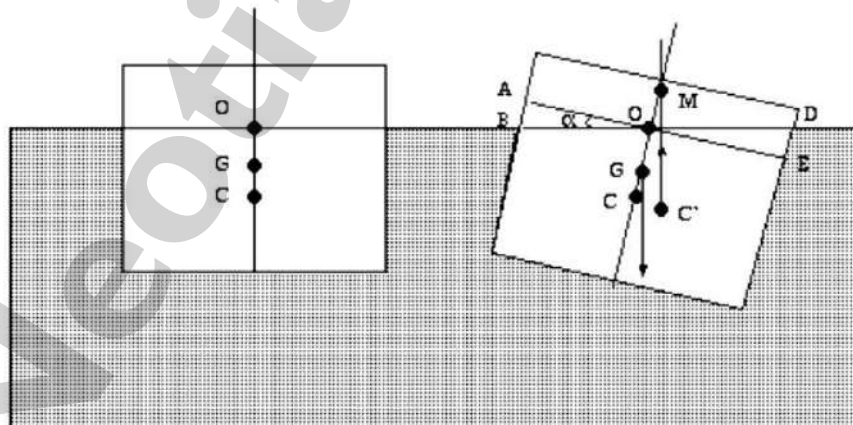

Fig. 1. Metacentric height of a floating body
The *center of the buoyancy* (C , the centroid of the displaced volume of fluid) of a floating body depends on the shape of the body and on the position in which it is floating. If the body is disturbed by a small angle of heel, the center of buoyancy changes because the shape of the submerged volume is changed. The point of intersection of the lines of action of the buoyancy force before and after heel is called the *metacenter* (M) and the distance between the *center of gravity* (G) and M , is called the *metacentric height* (GM , see Fig. 1).